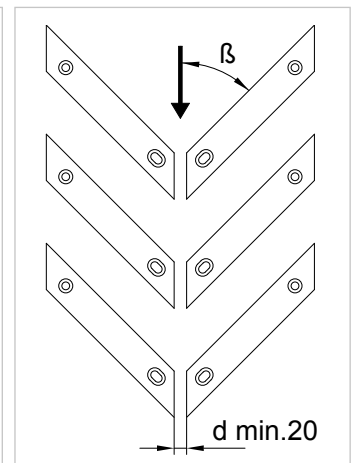

Figure 450: Version B
- B V-shaped arrangement of wear strips (Fig. 450)** (chevron or herringbone type). This provides an equal distribution of load and wear over the total belt width. The maximum distances between the wear strips have to be 100 mm (4") for 2" belts and 50 mm (2") for 1"/0.5" belts. Max. angle  $\beta = 45^\circ$ .